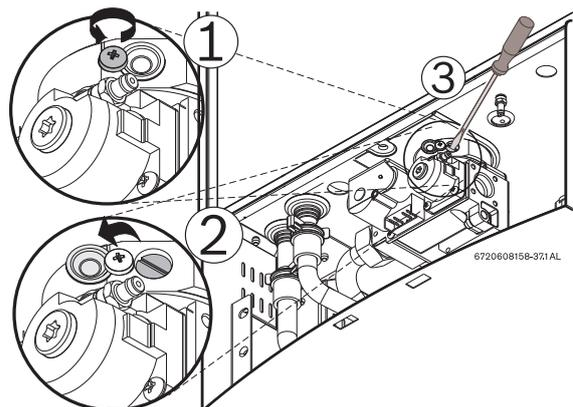

Fig. 58 Adjusting P1 CO2 level
- ▶ Loosen yellow painted Phillips screw (1) and cover should rotate down (2) revealing a recessed brass slotted screw. Fig. 58.